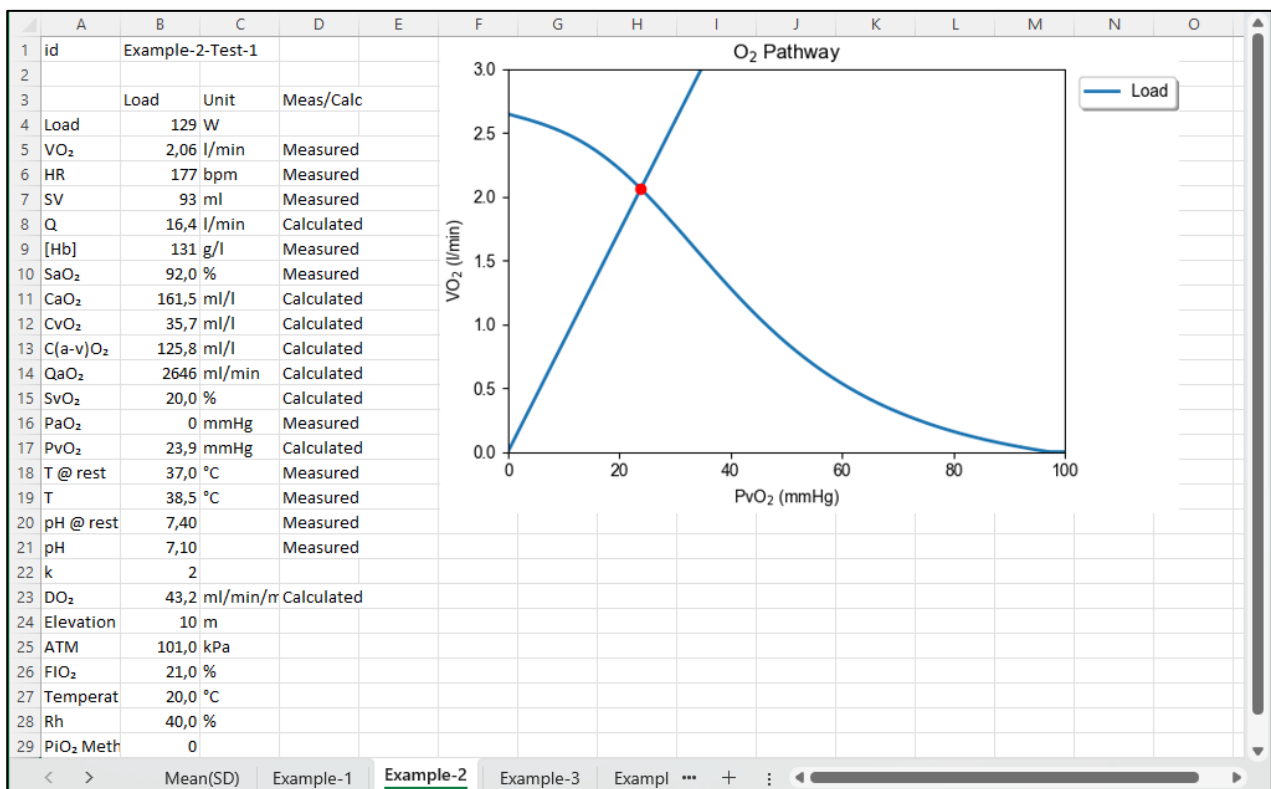

Figure 51
8. An excel file is created (Figure 51).